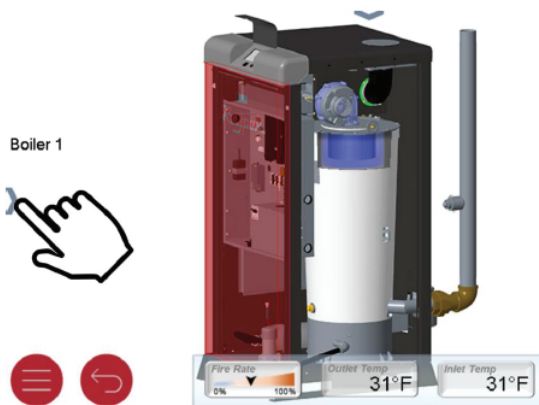

Figure 56. Boiler 1 Secondary Action
3. Go to the Secondary page by tapping on ">" per **Figure 56**.